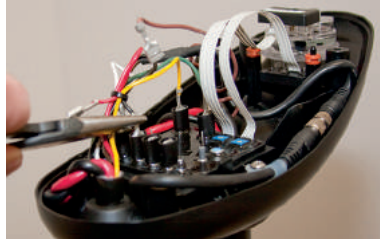

FIGURE 13
- a. Disconnect all six **AutoPilot** connectors from **AutoPilot** controller, using a needle-nose pliers and a utility knife to remove any heat shrink insulation that may exist. (Figure 13)